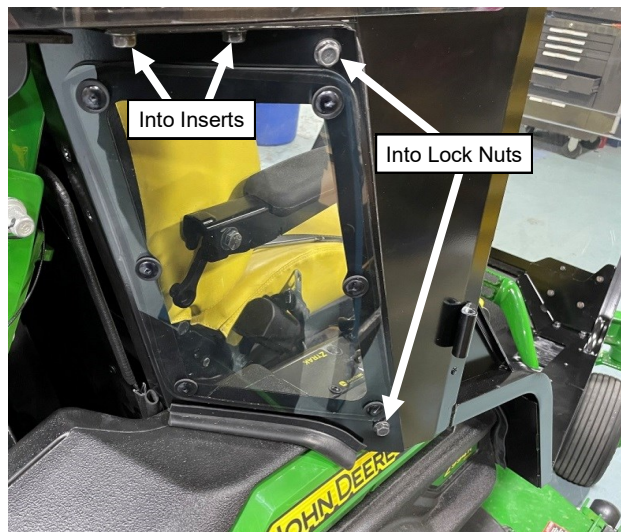

Fig. 2.15 (Install Right Filler)
2.15 Install right filler onto the cab from the outside using provided hardware per Figure 2.15. Note: side screws have lock nuts on the inside.